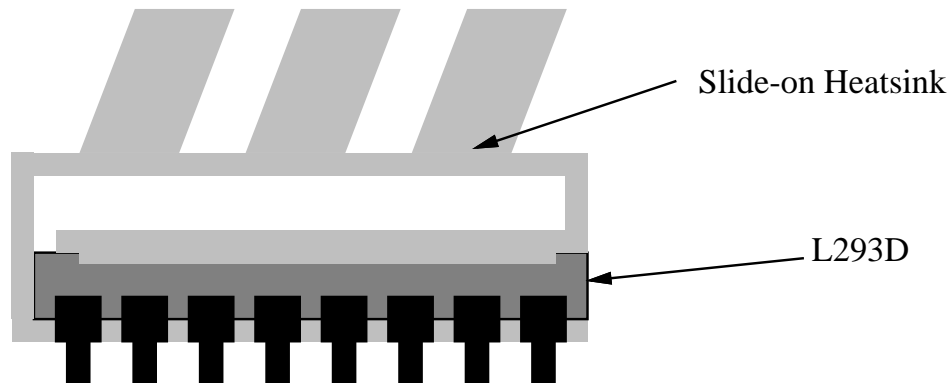

Figure 4.10: Motor Chip Stacking Technique
- **U21**–L293D. Slide gold heat sink onto chip before installing in socket. The diagram for the mounting is shown in figure 4.10. The gold heat sink slides right onto the chip.